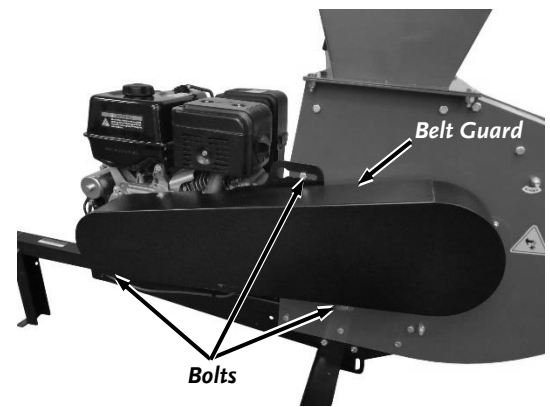

Figure 22
1. Remove the three Bolts supporting the Belt Guard using a 3/8" Wrench (**Figure 22**). Remove the Belt Guard and set aside.
7. Re-install the Belt Guard (**Figure 22**).